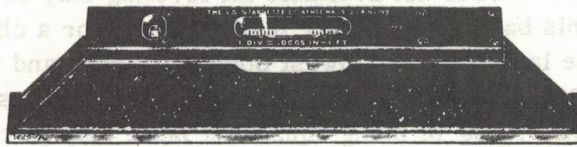

Fig. 1. Precision Level
- Precision level, graduated to .0005 of an inch per foot, see Fig. 1.